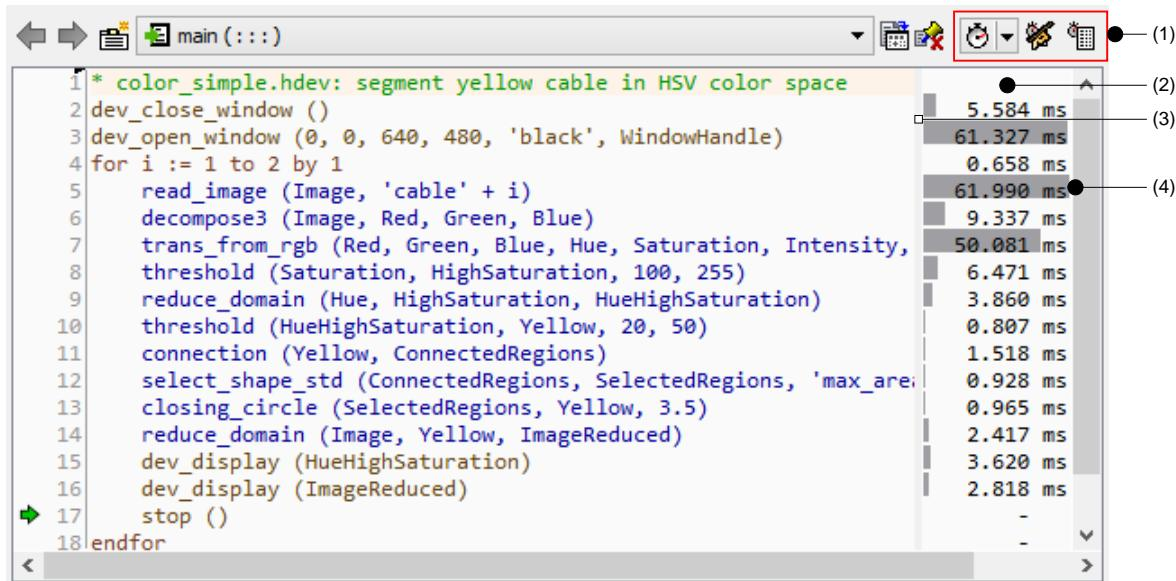

Figure 6.53: Profiling results of the first program execution.
To illustrate the way the profiler works, the HDevelop program *solution_guide/basics/color_simple.hdev* is loaded and executed (see figure 6.53). The profiling data is displayed in a separate column (2) of the program window. The display area can be resized by dragging its left edge (3).